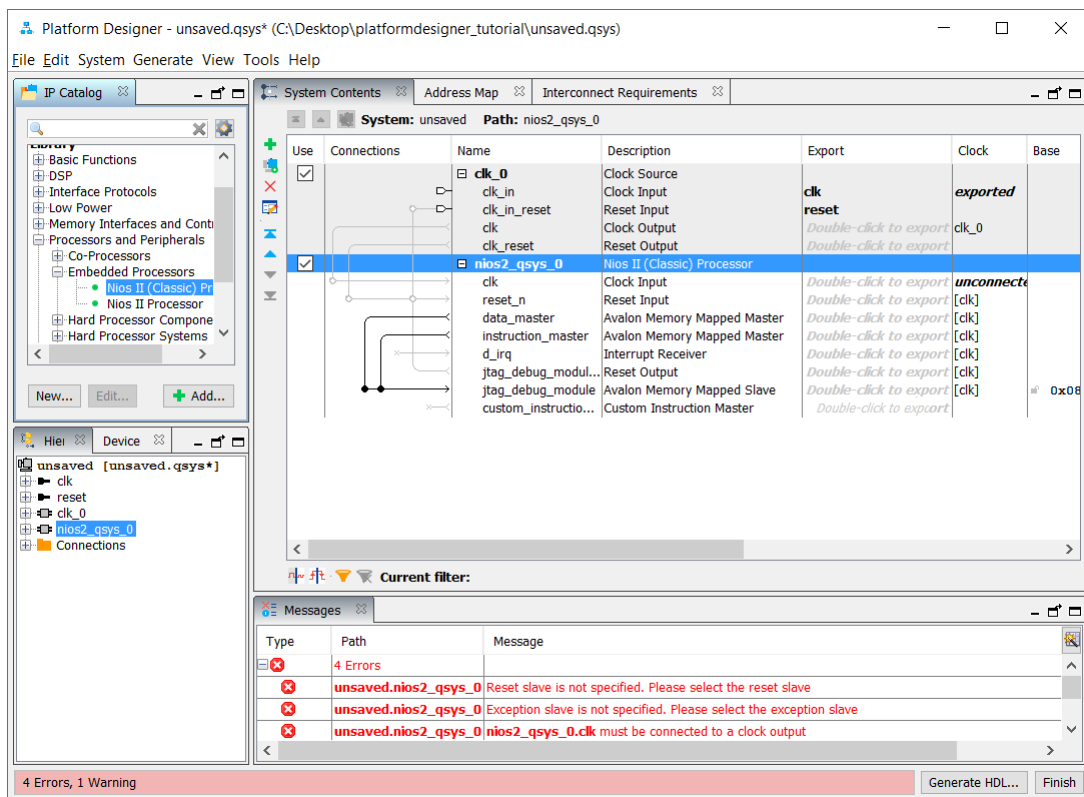

Figure 6. Inclusion of the Nios II processor in the design.
- Choose Nios II/e which is the economy version of the processor. This version is available for use without a paid license. The Nios II processor has *reset* and *interrupt* inputs. When one of these inputs is activated, the processor starts executing the instructions stored at memory addresses known as *reset vector* and *interrupt vector*, respectively. Since we have not yet included any memory components in our design, the Platform Designer tool will display corresponding error messages. Ignore these messages as we will provide the necessary information later. Click Finish to return to the main Platform Designer window, which now shows the Nios II processor specified as indicated in Figure 6.